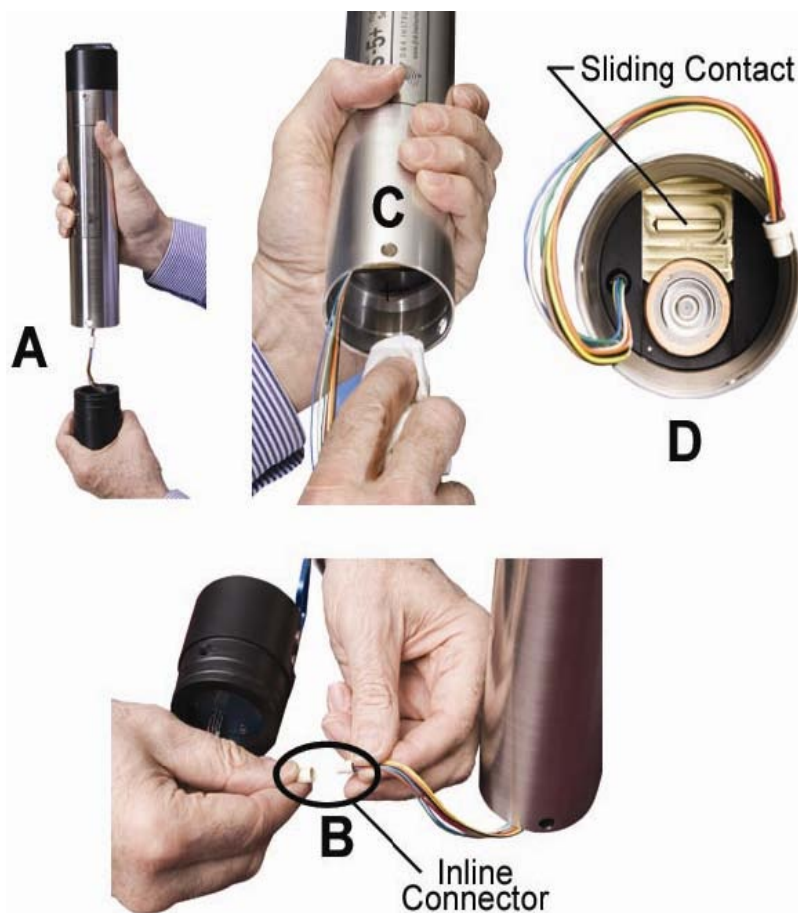

FIGURE 6-2. Battery installation: A) endcap removal, B) wiping, C) cable disconnect, and D) battery contact
Remove the set screws from the endcap with the handle and connector. If the unit was submerged during the previous day, turn the sensor end up, so water around the O-rings can drain out when the endcap is removed, FIGURE 6-2 (A). Pull endcap out and disconnect the inline connector (B). Wipe water from the inside wall of the housing tube with a paper towel (C). Turn the connector end up and push the ridge on the battery sliding contact until the spent batteries pop out (D). Insert new batteries with the positive terminal (+) toward the sliding contact. Push the batteries down and slide the contact over the top of them and against the housing wall. Inspect the O-ring in the cap, clean and grease or replace it if necessary, and replace the cap and set screws.